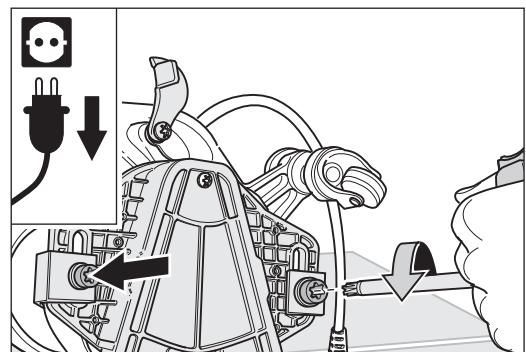

Fig. 34 Remove the two screws which connect the attachment, along with the washers and the guide angles.
- 6 Use the universal spanner to remove the two screws which connect the attachment, along with the washers and the guide angles (Fig. 34). Place these parts to the side.